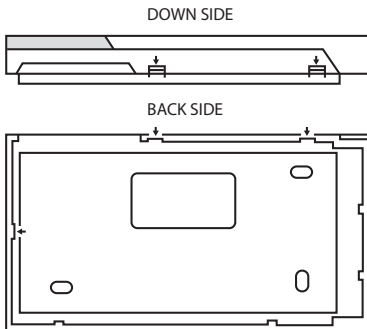

Fig. No. 1
1. Detach Keyboard holder from EKB3 keyboard and fix it to the wall. Keyboard holder detach points are marked with rows (see Fig. No. 1).